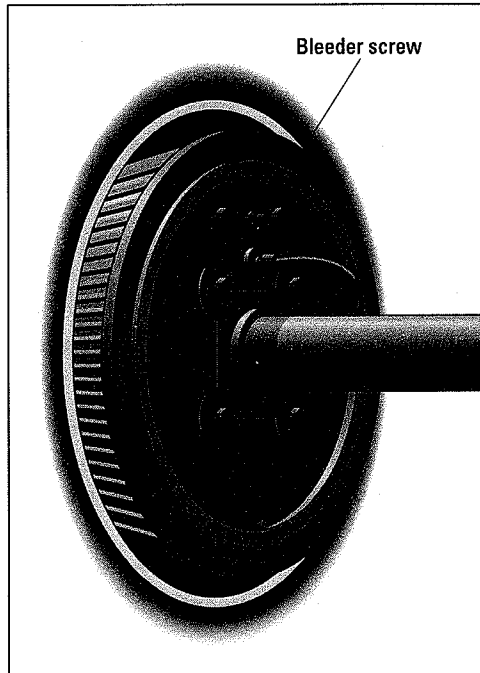

Figure 18-13:
1. Behind each of your brakes is a little nozzle called a *brake bleeder screw* (see Figure 18-13).